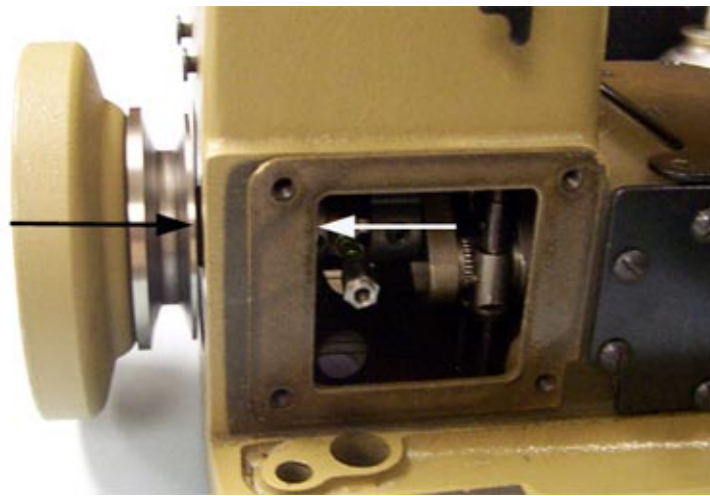

Fig 9
5) Install the handwheel assembly onto the crankshaft. Holding the pump hub against the inside of the bearing housing, carefully push the handwheel assembly against the outside of the housing and tighten the first screw in operating direction of the handwheel assembly against the flat on the crankshaft, then tighten the second screw. (fig 9). Turn the handwheel over several revolutions and check for binds or left to right shake. If binds or shake occur, repeat Step 5.